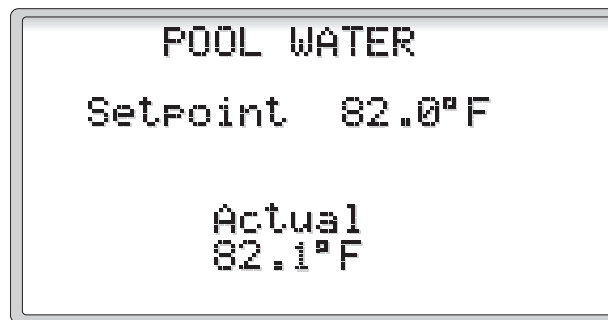

Figure 15
2.2.2 Pool Setpoint (Figure 15)